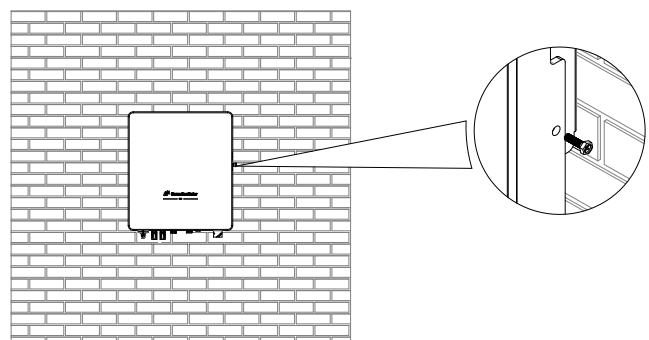

FIG. 6-10 Fix Both Sides of Inverter
2) Use two safety bolts to fix both sides of inverter to ensure the inverter fixed to the wall firmly, as per FIG. 6-10.